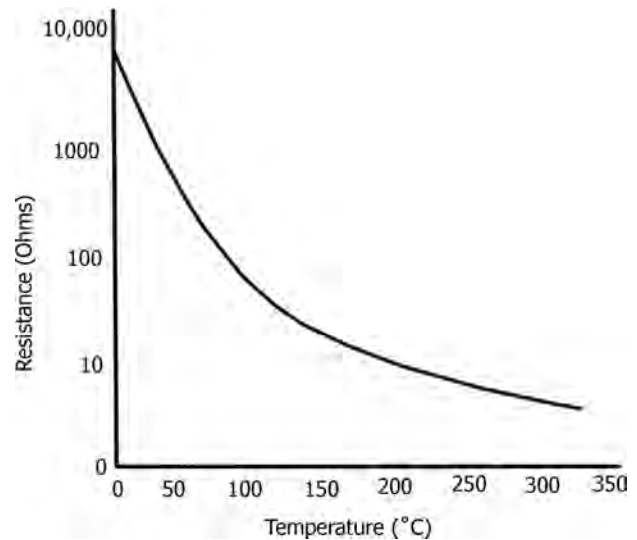

FIGURE 8.4 Resistance—temperature curve of a thermistor.
- Thermistors are based on resistance change in a ceramic semiconductor. The resistance drops nonlinearly with temperature rise as shown in Figure 8.4.
- The nonlinear characteristics are illustrated in Figure 8.4.